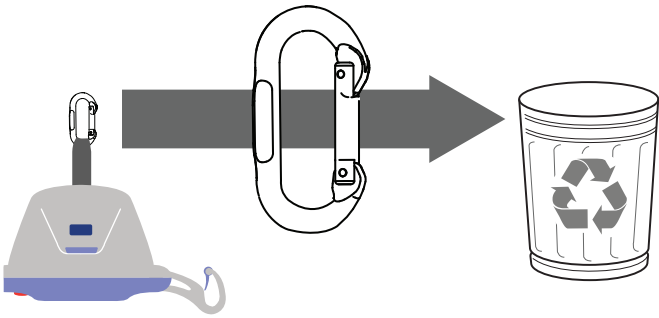

Fig. 1
1. If applicable, remove the existing single action carabiner from the reacher and/or lift strap and dispose properly. See Fig. 1.